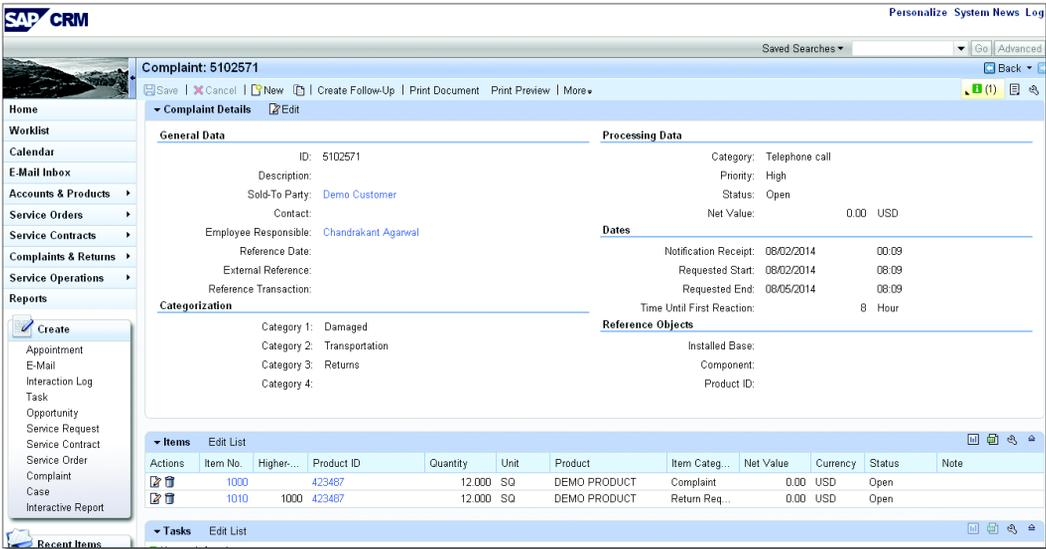

Figure 7.88 Complaints Document
6. Next, create the complaints document categorized as damaged to trigger a return. Figure 7.88 shows the complaints document with multilevel categorization showing CATEGORY 1: DAMAGED, CATEGORY 2: TRANSPORTATION, and CATEGORY 3: RETURNS. Based on the issue received, you can populate the categorization, which helps in complaints analytics, and work on them to reduce the complaints from the customer. Figure 7.88 also shows the RETURN REQUEST subitem, which is triggered via returns actions on the line item. This return line is replicated to SAP ERP to bring the goods back to the organization.